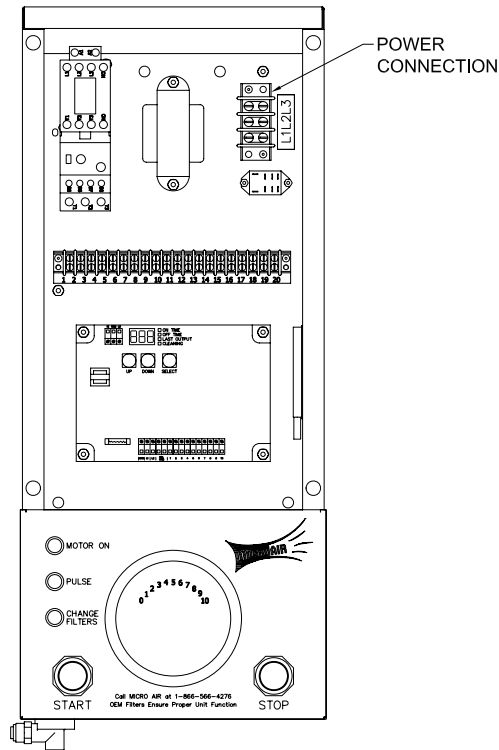

FIGURE 4
2. Make connections from your supply power to terminal L1, L2, and L3. Wire size should be rated for motor horsepower load needed for your application (see Figure 4).